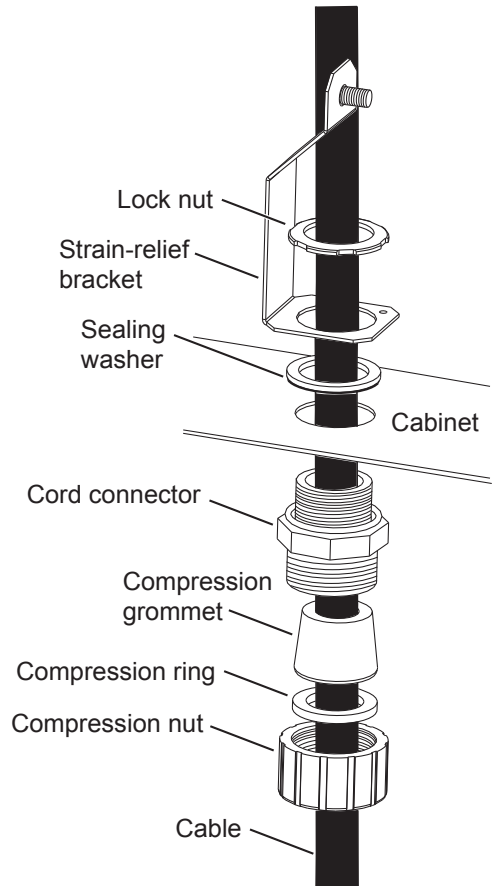

Figure 1— Cable Entering Cabinet from Bottom
Step 1: Feed the cable through the cord connector kit in the orientation shown in Figure 1. Do not tighten yet so the cable can be adjusted as needed.
Step 2: Place sealing washer over cable inside cabinet with the rubber on the washer toward the cabinet. Insert cable through the hole in the strain-relief bracket and lock nut, as shown in Figure 1.